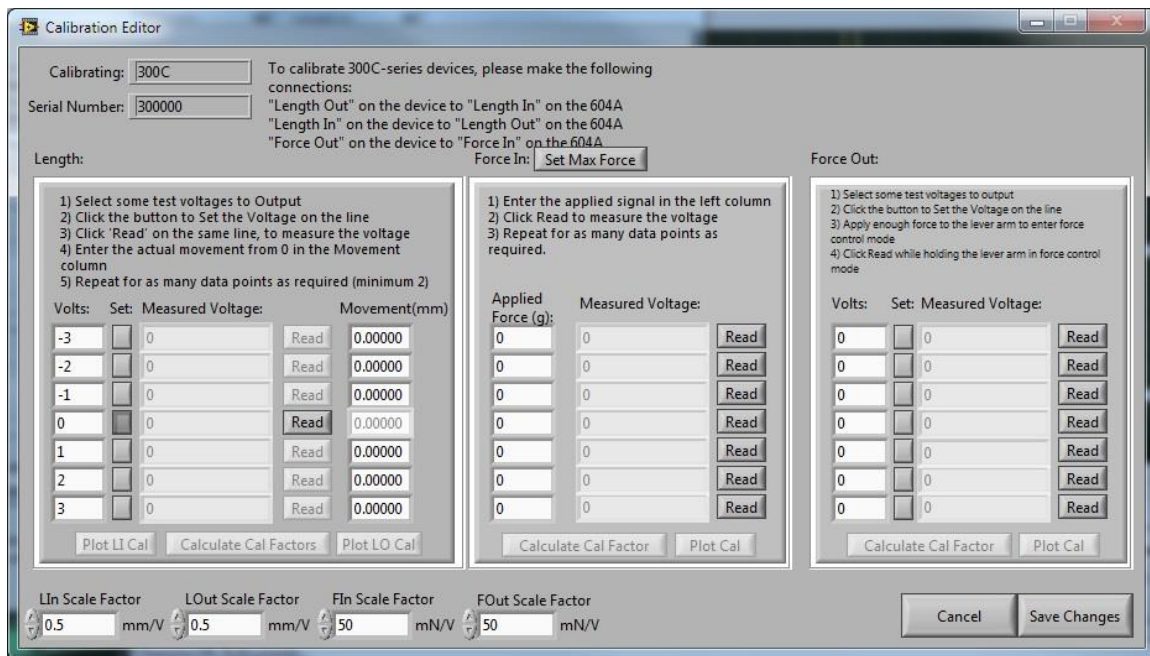

Figure 12: Calibration Editor Window
The leftmost panel on the calibration window, see Figure 12, is used to calibrate Length In and Length Out. The text entry boxes in the 'Volts' column are used to set the output voltage to levels which are close to the values we might expect to see in normal use. It is a best practice to set the calibration voltages to be equally spaced throughout the anticipated travel of the instrument, however this is not imperative. Note: one of the calibration output voltages MUST be set to zero (0) volts.